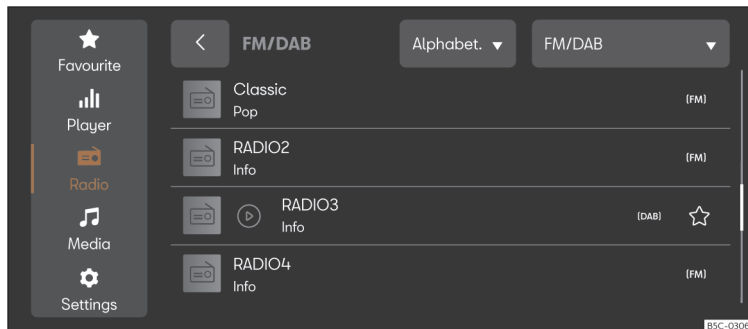

Fig. 160 Schematic representation: Radio view.
- Press **MENU** > >>> **Fig. 160**.